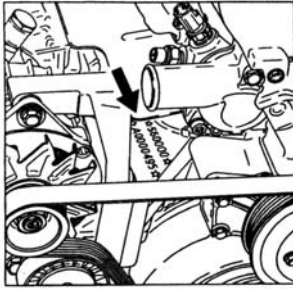

Fig. 2.4. Identification Number of
**Identification number of GAZ-560, GAZ-5601, 5602 engines** (Fig. 2.4) is stamped on the plain surface of engine framework (in its front part, on the right, above alternator mounting flange). It contains engine index (GAZ-560 or GAZ-5601, 5602), model year code (5 – 2005; 6 – 2006) and engine serial number.